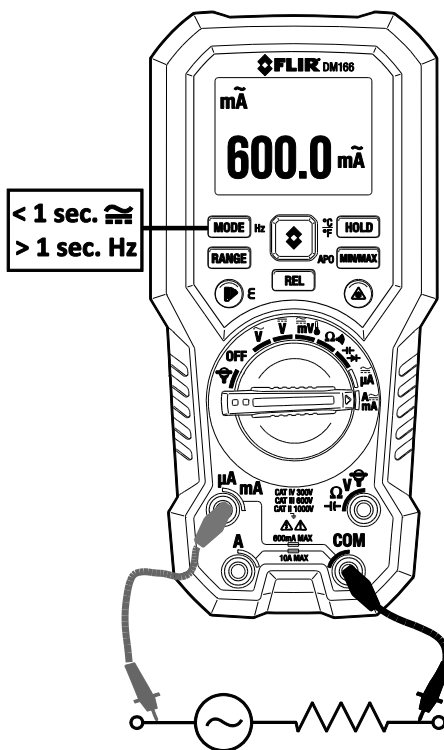

Fig. 6-9 Current Measurement example
4. Connect the probe leads in series with the part or circuit under test. **Fig. 6-9** shows a typical setup example.